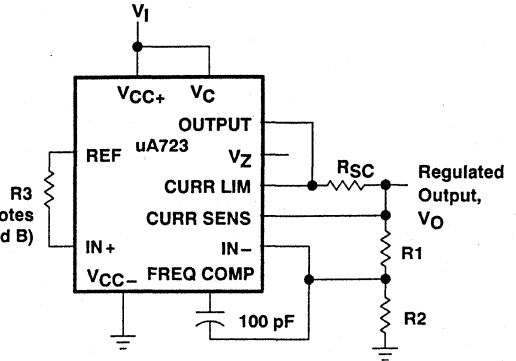
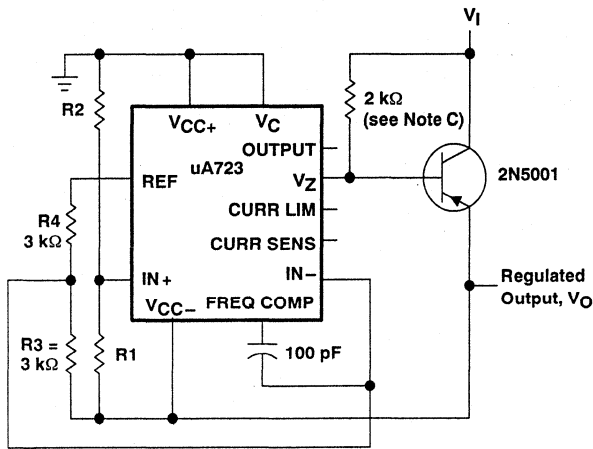
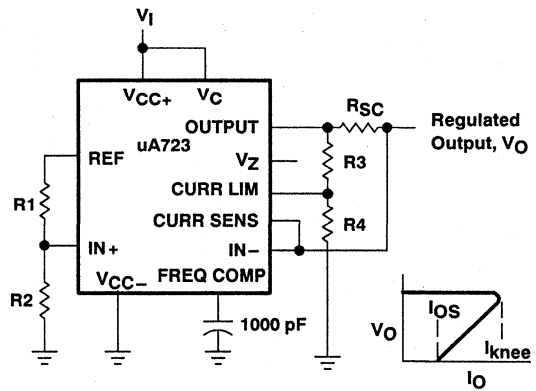

Figure 2. Basic High-Voltage Regulator
Figure 3. Negative-Voltage Regulator
Figure 6. Foldback Current Limiting
6. For Figures 3, 8, and 10, the device requires a minimum of 9 V between V_{CC+} and V_{CC-} when V_O is equal to or more positive than -9 V.
| <p>Outputs from 7 V to 37 V See Figures 2,4,(5,6,9, 11, 12) and Note 4</p> $V_O = V_{(ref)} \times \frac{R_1 + R_2}{R_2}$ | <p>Outputs from -6 V to -250 V See Figures 3, 8, 10 and Notes 4 and 6</p> $V_O = -\frac{V_{(ref)}}{2} \times \frac{R_1 + R_2}{R_1};$ <p>$R_3 = R_4$</p> | <p>Foldback Current Limiting See Figure 6</p> $I_{(knee)} \approx \frac{V_O R_3 + (R_3 + R_4) 0.65 \text{ V}}{R_{SC} R_4};$ $I_{OS} \approx \frac{0.65 \text{ V}}{R_{SC}} \times \frac{R_3 + R_4}{R_4}$ |